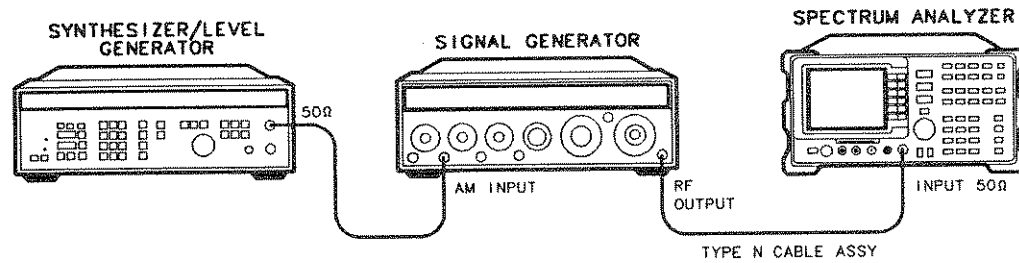

Figure 4-28. Fast Sweep Time Test Setup
5. Connect the equipment as shown in Figure 4-28. *Option 026:* Use the APC to Type N adapter.